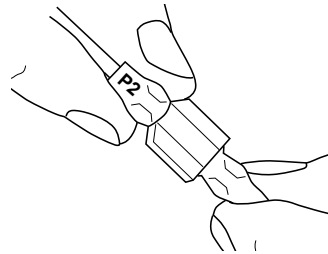

Figure 18 - Connecting P2 Wires
7. Insert the female port, which is on the white power supply wire (marked with P1), into the corresponding male port. (marked with P1), (see Figure 18).